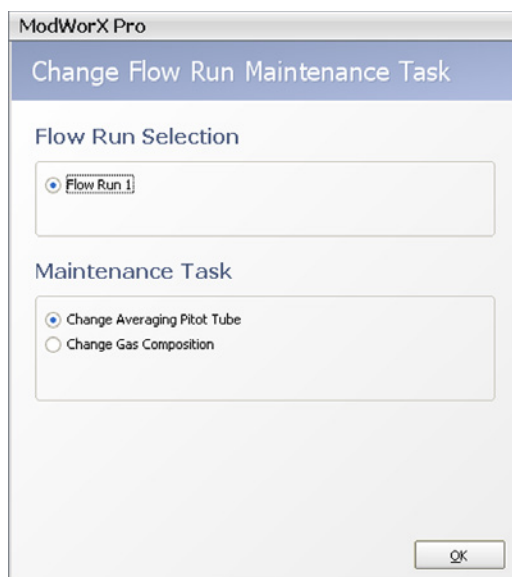

Figure 11.2
2. Click **Yes** at the Enter Maintenance Mode prompt. The Change Flow Run Maintenance Task screen will appear (Figure 11.2, page 156).